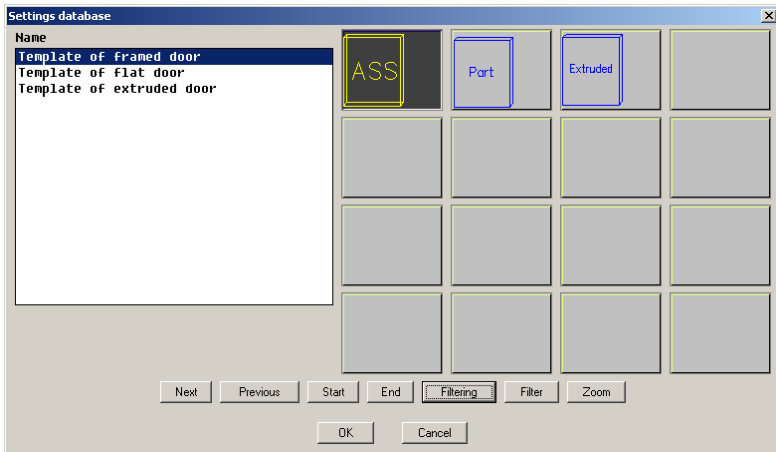

Fig. 3.66. Door template
- insert the Door template in the project by command Assembly >> Door template, see fig. 3.66;